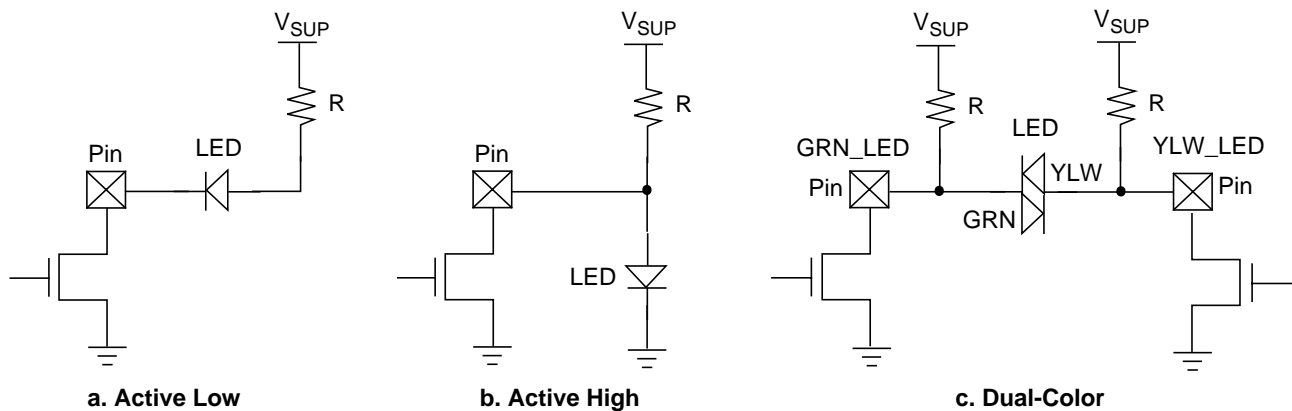

Figure 16. LED Connection Configurations
The LEDs can be connected to PC87372 using one of the configurations shown in Figure 16.
The Standard LED control is the default LED control option. Two regular LEDs must be connected to the GRN_LED and the YLW_LED pins, according to configuration “b” (Active High) in Figure 16.
Table 31 on page 78 shows the states of the GRN_LED and YLW_LED pins. The LEDs are connected according to configuration “b” (see Figure 16); therefore, a LED is on when the pin is floated and off when the pin is at low level (0).
In the Advanced LED control option, one dual-color LED or two regular LEDs can be connected to the GRN_LED and the YLW_LED pins, using any of the configurations shown in Figure 16. LEDCFG and LEDPOL bits in ALEDCTL register (at offset 02h; see Section 6.3.4 on page 80) must be set to reflect the connection configuration of the LEDs.
LEDCFG bit selects either configurations “a” and “b” (two regular LEDs are connected between each pin and ground or V_{SUPP}) or configuration “c” (one dual-color LED is connected between the GRN_LED and YLW_LED pins). LEDPOL bit selects the polarity of the On state at both pins (GRN_LED and YLW_LED). Table 29, shows the value of LEDCFG and LEDPOL bits for each LED connection configuration in Figure 16, and also the state of the GRN_LED and YLW_LED pins for which the LED(s) are On.